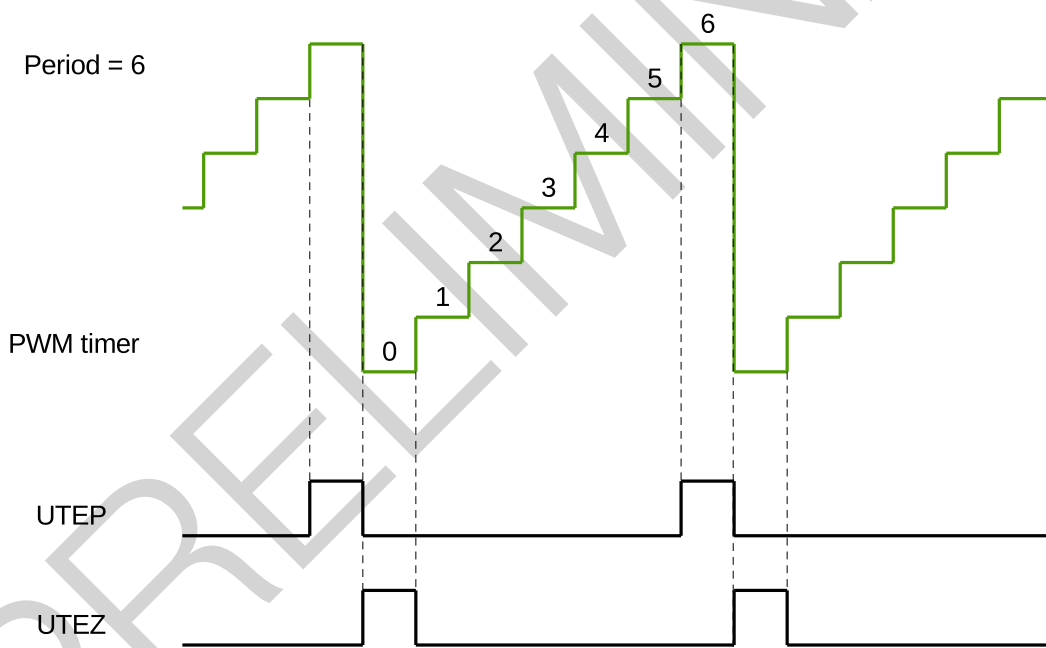

Figure 33-11. UTEP and UTEZ Generation in Count-Up Mode
Figures 33-11 to 33-13 show the timing waveforms of U/DTEP and U/DTEZ.
1. UTEP and UTEZ do not happen simultaneously. When the PWM timer is in count-up mode, UTEP will always happen one cycle earlier than UTEZ, as demonstrated in Figure 33-11, so their action on PWM signals will not interrupt each other. When the PWM timer is in count-up-down mode, UTEP will not occur.